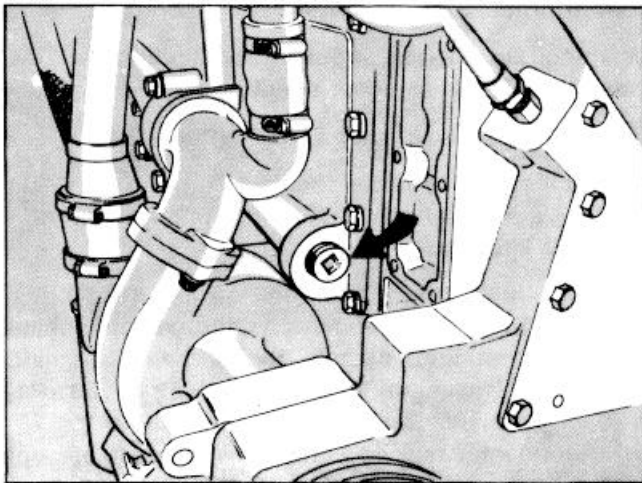

Fig. 1-7 (OM1004L). Lubricating system priming point - KT/KTA C.I.D. Engine
2. Remove the plug from the lubricating oil crossover passage on NH/NT-855 Engines, Fig. 1-1. Remove the plug from the head of the lubricating oil filter housing on V Engines, Fig's. 1-2, 1-3, 1-4, 1-5 and 1-6. On KT/KTA-1150 Engines, remove the plug from the front of the oil cooler housing, Fig. 1-7.